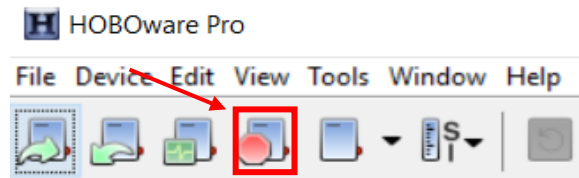

Figure A.5.15: HOBOWare “Stop Logging” Button.
2. If satisfied with the accuracy of the measurements, click the “Stop Logging” button on the top left corner of the screen (Figure A.5.15).